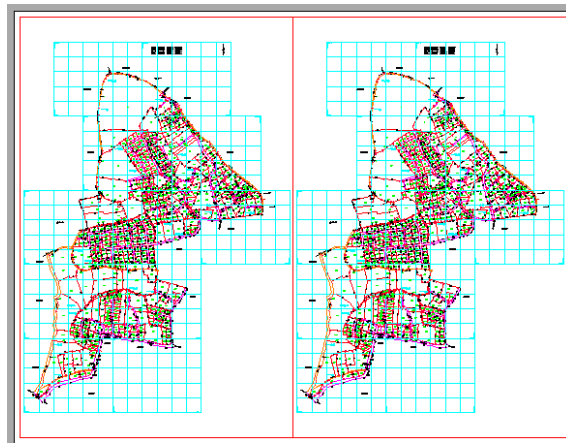

Figure 4: Two vertical viewports fit to margin of paper
- Now two vertical viewports appear to the margin of the paper (see figure 4).